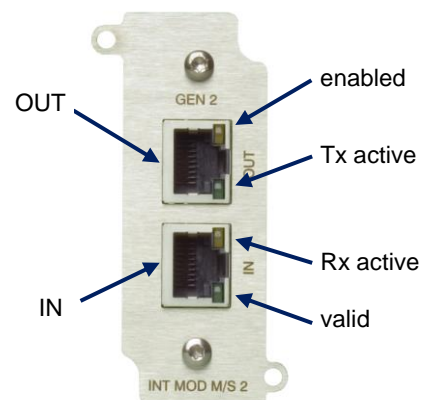

fig 3 - 3
- The interface icon will be shown in the display, see fig 3 - 4.